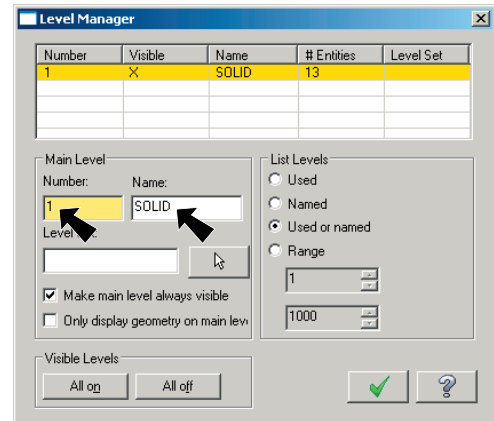

Fig. 18
Step 2. Press **Tab** key to move to the Name Field and key-in **SOLID**, Fig. 18.